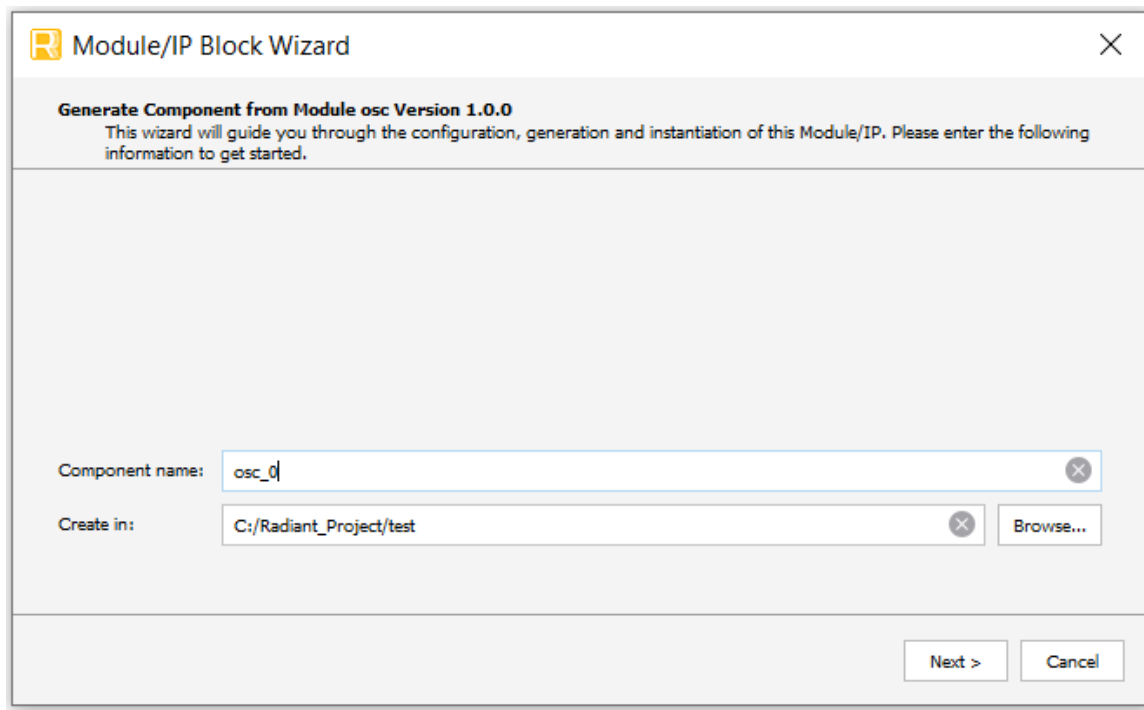

Figure 3.1. Module/IP Block Wizard
2. In the **IP Catalog** tab, double-click on **OSC** under **Module, Architecture_Modules** category. The **Module/IP Block Wizard** opens as shown in Figure 3.1. Enter values in the **Instance name** and the **Create in** fields and click **Next**.
5. Click the **Finish** button. All the generated files are placed under the directory paths in the **Create in** and the **Instance name** fields shown in Figure 3.1.